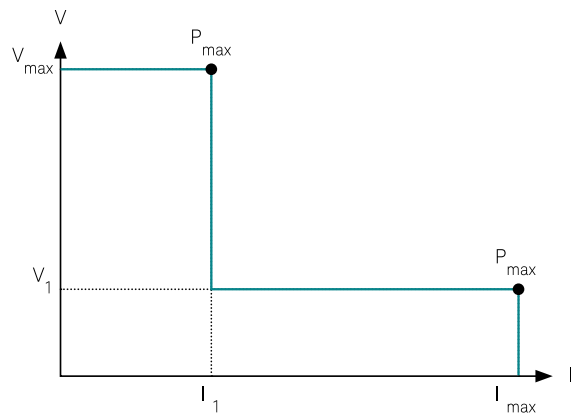

Figure 6. A dual-range output characteristic provides more voltage-current combinations than a rectangular output
2. **Dual-range output:** A dual-range power supply provides more flexibility in voltage-current combinations. A high voltage range provides lower current, and a low voltage range delivers more current; see Figure 6.